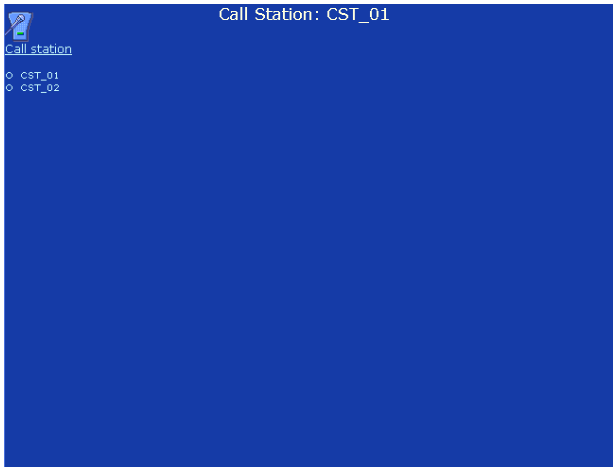

figure 38.36: Switch trigger, step 1
- 1 Go to *Configure > Action Programming > Call station*. A screen similar to the one in figure 38.36 appears in the main frame of the web interface.